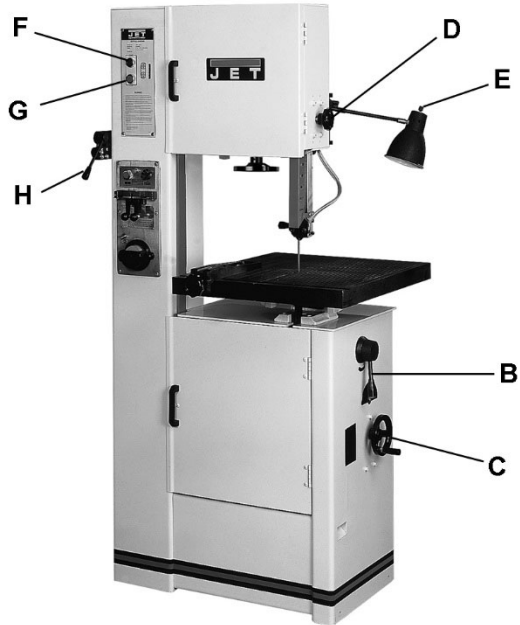

Figure 2
**Low/High Range Shift Lever (B, Figure 2)** – Pull toward front of machine to shift into low speed range. Push toward rear of machine to shift into high speed range. **CAUTION: Do not change speed range while machine is running. Adjust only when machine is stopped.**
**Variable Speed Handwheel (C, Figure 2)** – Turn clockwise to increase speed and counterclockwise to decrease speed. **CAUTION: Do not turn handwheel while machine is stopped. Adjust speed only when machine is running.**
**Upper Blade Guide Lock Knob (D, Figure 2)** – Turn counterclockwise to loosen and clockwise to tighten.
**Work Lamp Switch (E, Figure 2)** – on top of lamp shade; turns lamp on and off.
**Main Motor Start Switch (F, Figure 2)** – Press to start band saw.
**Main Motor Stop Switch (G, Figure 2)** – Press to stop band saw.
**Shear Lever (H, Figure 2)** – UP position allows insertion of blade end into shear. Pull lever DOWN to cut blade.